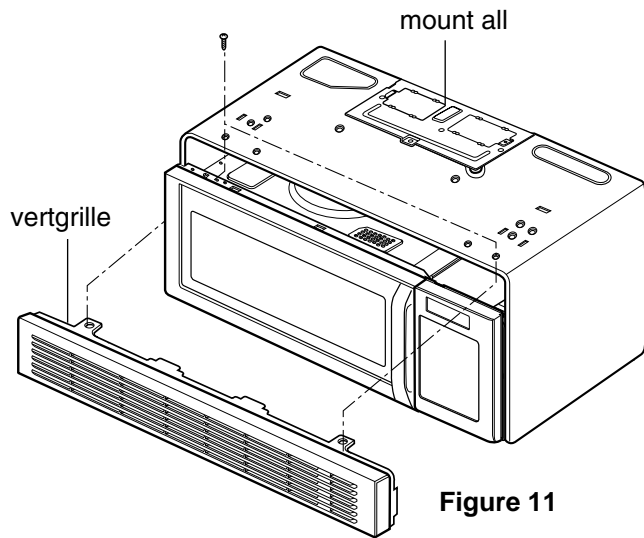

Figure 11
D. REMOVING MAGNETRON (Figures 11 Through 13)
- (1) Remove vertgrille.
- (2) Remove mount, all.
- (3) Remove outcase.
- (4) Disconnect the wireleads.
- (5) Remove the Magnetron very carefully.